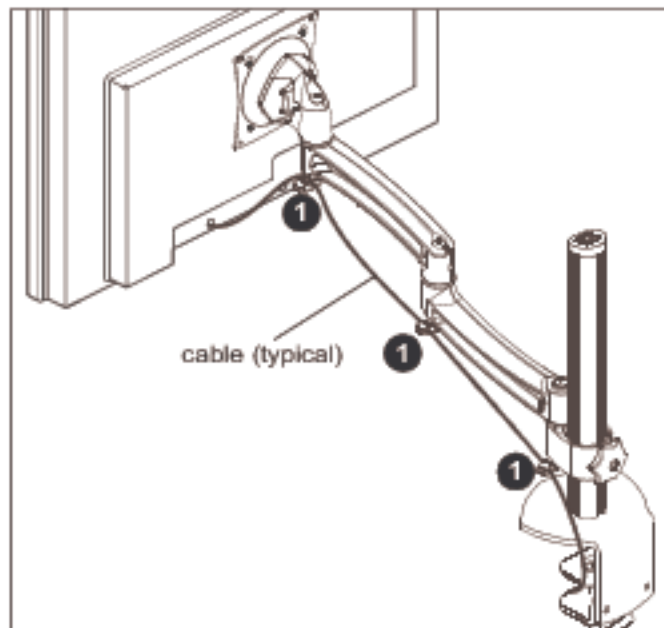

Figure 10
1. Route cables through cable management channels. (See Figure 10)